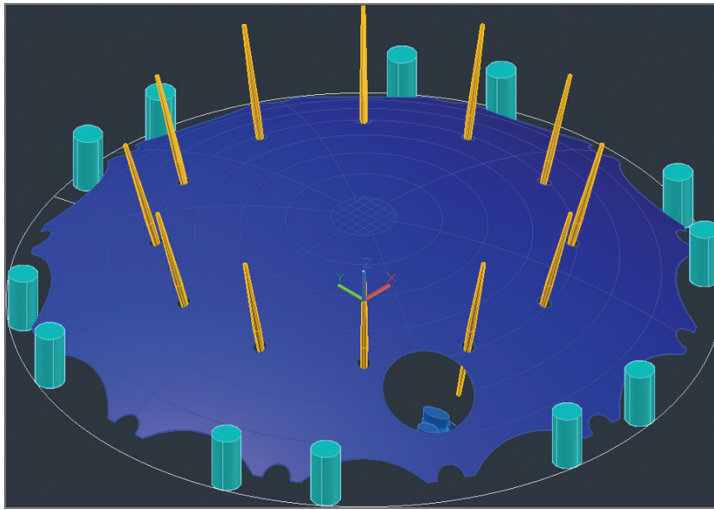

FIGURE 17.25 Arraying rotated masts around the dome
12. Hover the cursor over the Layer Properties Manager's title bar to reveal the palette. Toggle on the Dome Membrane layer. Switch to Shaded With Edges using the in-canvas Visual Style Controls menu. Zoom out to view the entire model. Figure 17.25 shows the result.